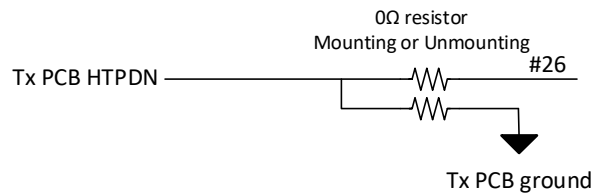

Figure 57 Tx HTPDN Circuit on Tx PCB
- ✓ Tx HTPDN line might be connected to Rx PCB via a cable or Tx PCB ground (refer to Figure 57).